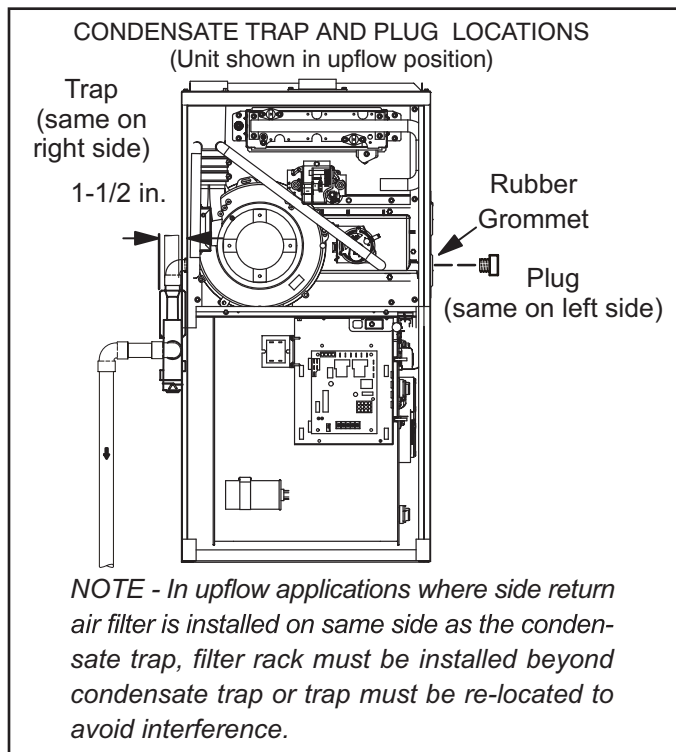
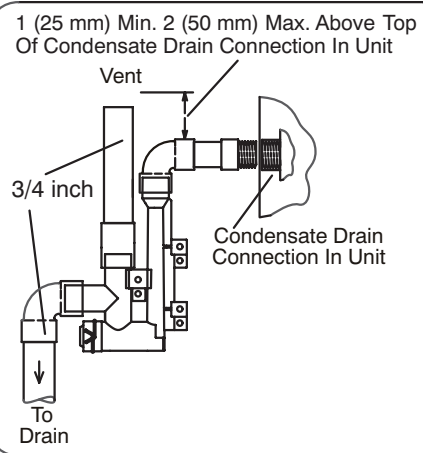

FIGURE 42
FIGURE 50
This unit is designed for either right- or left-side exit of condensate piping in upflow applications. In horizontal applications, the condensate trap must extend below the unit. An 8" service clearance is required for the condensate trap. Refer to FIGURE 42 for condensate trap locations. FIGURE 50 shows trap assembly using 1/2" PVC or 3/4" PVC.
- 4 - Install drain trap using appropriate PVC fittings, glue all joints. Glue the provided drain trap as shown in FIGURE 50. Route the condensate line to an open drain. Condensate line must maintain a 1/4" downward slope from the furnace to the drain.